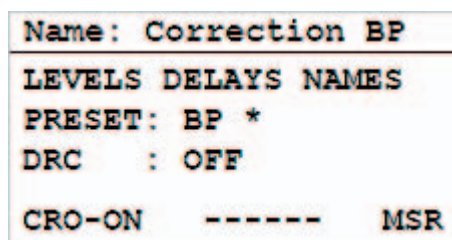
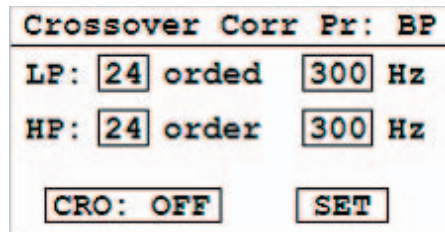
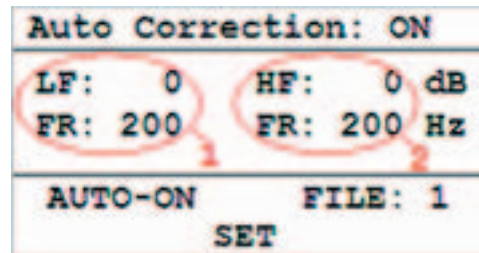

Fig. 3. RCS-DRC screen.
Fig. 4. Crossover menu. CRO: OFF indicates that crossover filters are disabled
Fig. 5 Auto Correction screen.
To disable crossover filters enter the **RCS-DRC** menu and select the CRO-ON(OFF) option in Fig.3 to enter Crossover screen Fig. 4.
Crossover filters can be turned OFF from the front panel crossover menu (Fig. 4). Place the screen cursor over the **CRO: ON** menu option and then press the enter button (click) until it displays **CRO: OFF**, and then click on **SET** option.. Please note that any change made on this screen does not take effect until you click on the **SET** option.
Click on the MENU button to go back to the DRC-RCS screen, Fig. 3.
After the measurements are completed, click on the **EXIT** option and then click on the **MENU** button to go back to the **DRC-RCS** screen (Fig. 3). At any time during the measurement process you can click on the **CANCEL** option to cancel the process. After the measurement is completed or the measurement was canceled, the **CANCEL** option changes its name to **EXIT**.
**4. Enable automatic room correction.** In the **DRC-RCS** screen (Fig. 3), select correction preset 1. Make sure that crossover filters are enabled and proper crossover frequency is selected. Crossover filters can be adjusted at any time even after you enable the automatic feature. Click on the **AUTO-OFF** menu option to enter the Auto Correction screen (Fig. 5). Note that in bypass mode the **AUTO-OFF(ON)** menu option is not displayed.